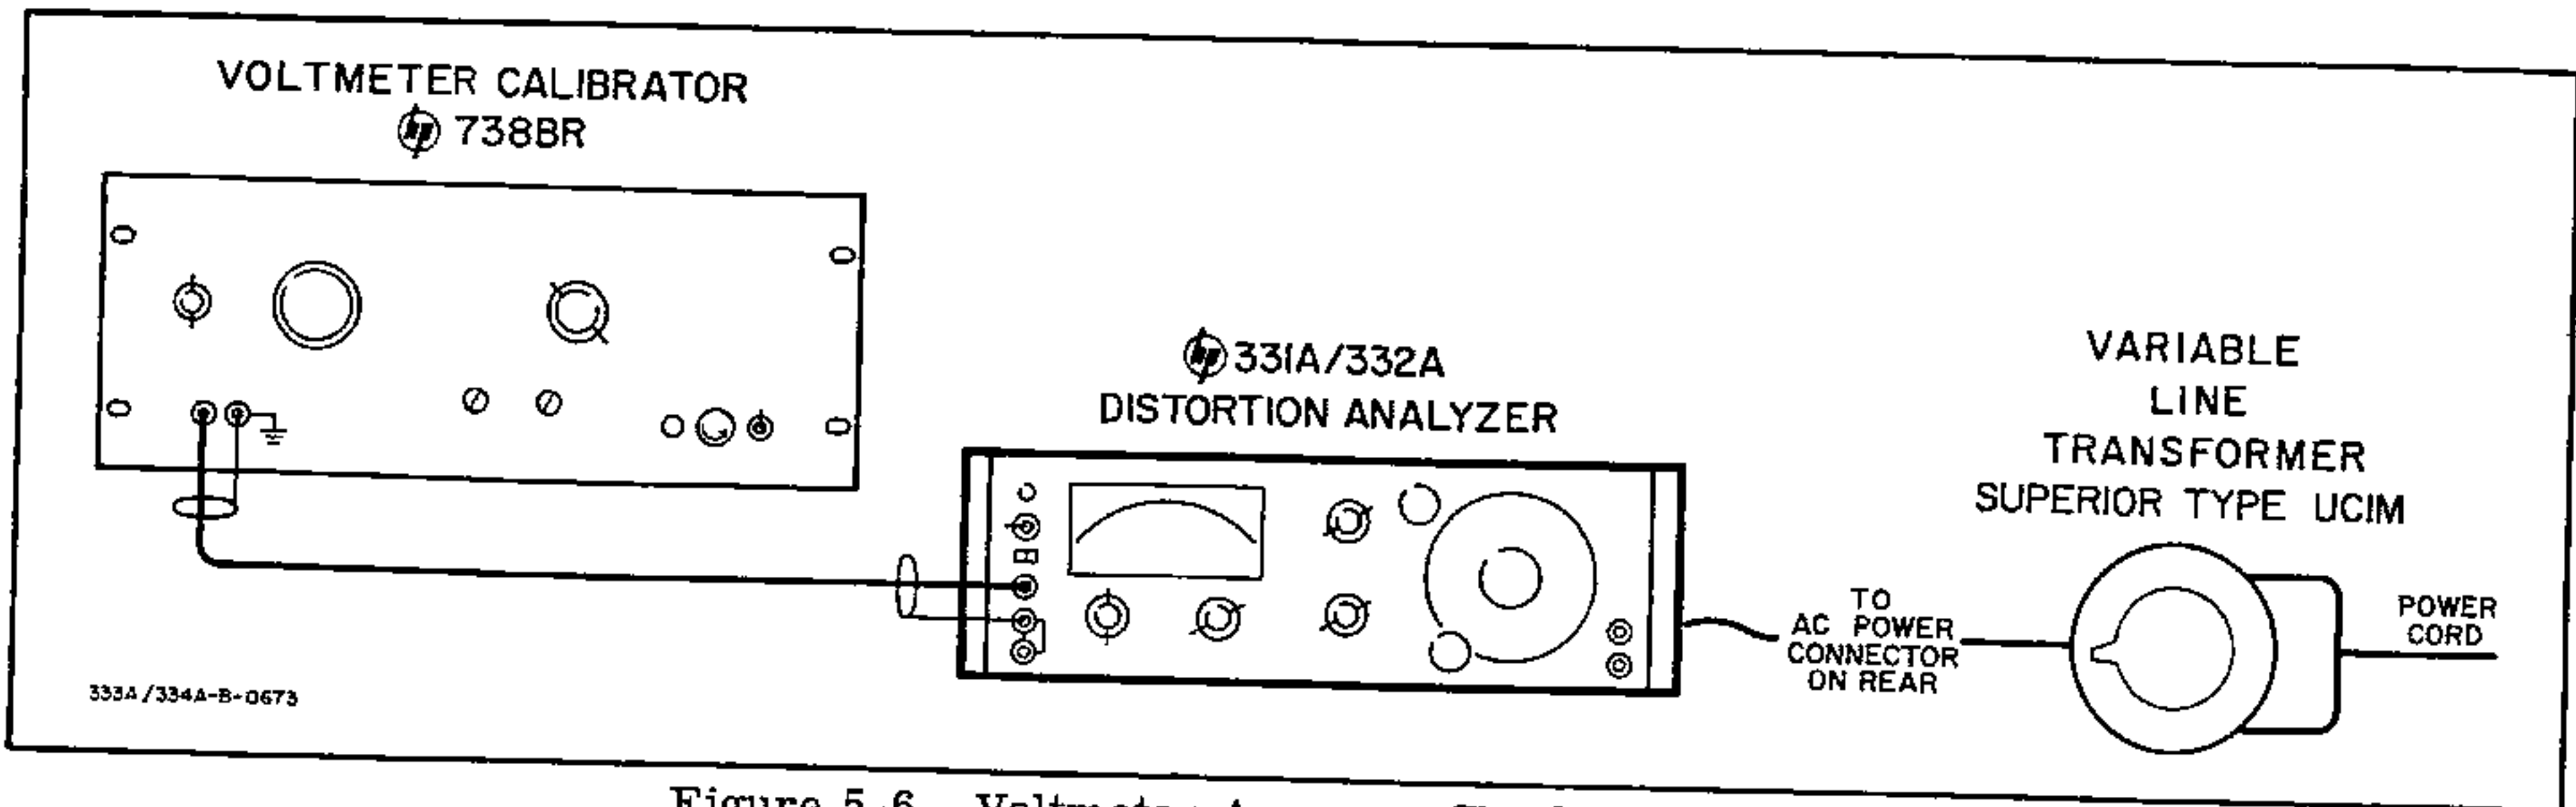

Figure 5-6. Voltmeter Accuracy Check Test Setup
- a. Connect Voltmeter Calibrator (hp Model 738B) and Variable Line Transformer (Superior Type VC1M) to Distortion Analyzer as shown in Figure 5-6. Remove shorting bar between power line ground and circuit ground terminals.